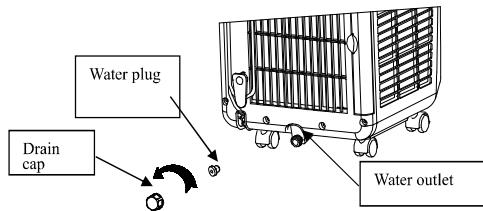

Figure 12
1. Manual drain: (as shown in Figure 12)